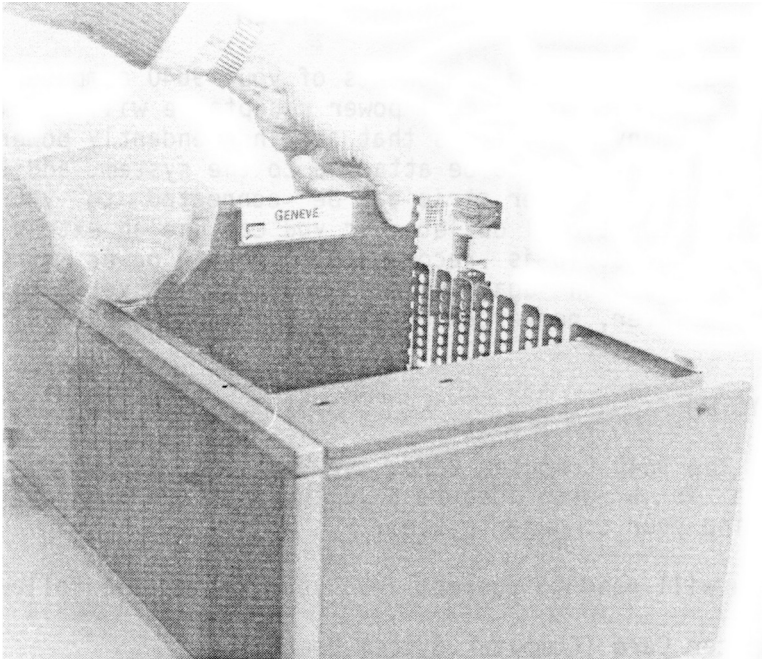

Figure 3 - This is the 9640 computer card. Connector sockets are at the rear
5. The label identifying the 9640 system board is on the very top of the card. At the rear of the Card are the keyboard, video, mouse, and joystick connector ports. Hold the 9640 Computer Card (label side up) with the connector ports facing towards the rear of the PE box. See Figure 3.